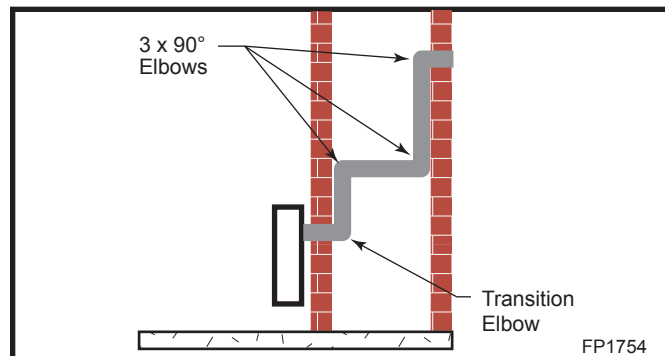

Fig. 20 Maximum three (3) 90° elbows per installation.
- The maximum number of 90° elbows per side wall installation is three (3). (Fig. 20)